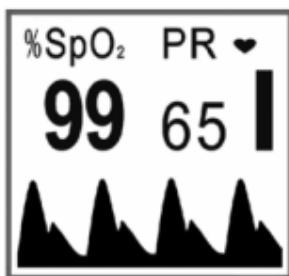

Figure 4 PR display
4. Next enter into data display screen (as shown in Figure 4). User can read the values and view the waveform from display screen.